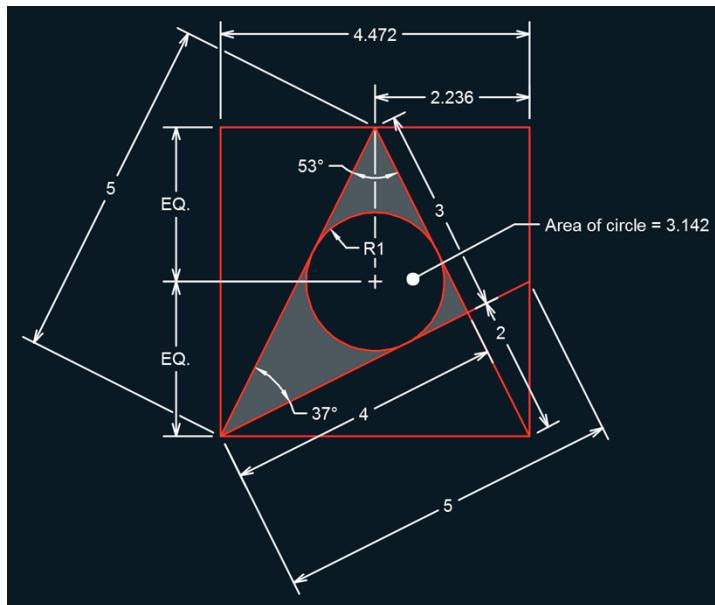

FIGURE 11.24 Using DIMBREAK to clean up overlapping dimension objects
10. Press Enter to accept the default Auto option, and the **DIMBREAK** command ends. Breaks are made in the selected dimensions where they cross other objects (see Figure 11.24).